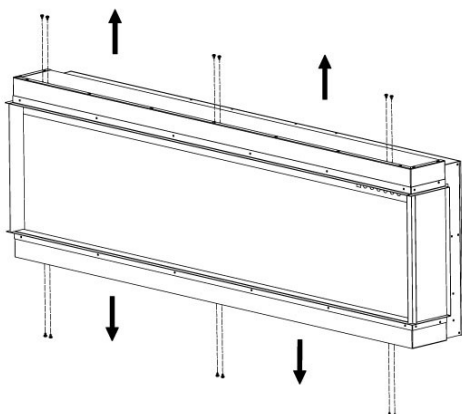

Fig.3-1
1. Remove the 8 (or 12) silver screws on the top and bottom of the appliance, see figure 3-1.